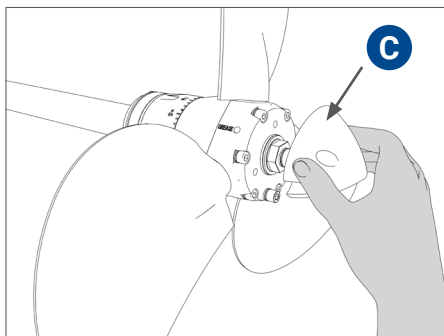

FIG. 18 Engage anode "C"
- Engage the anode **C** and secure it with 3 stainless steel screws **D** (Fig. 18 - 19 - 20).